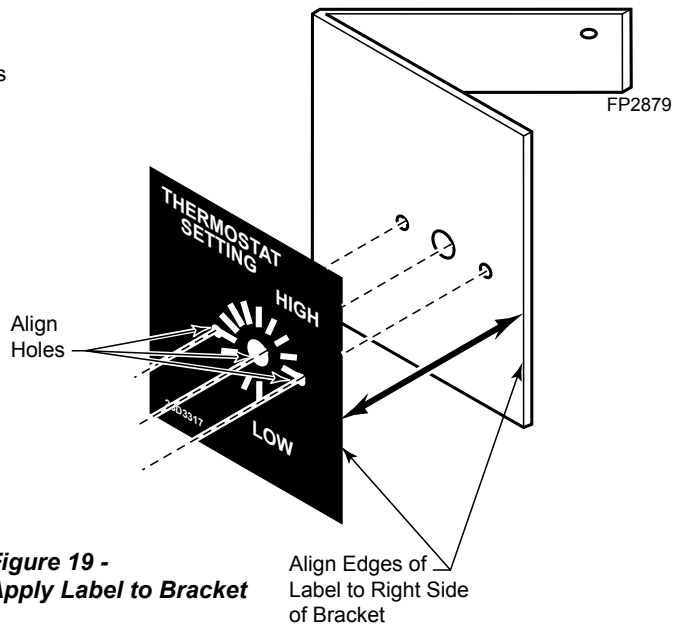

Figure 19 - Apply Label to Bracket
2. Peel away the paper backing on the label. Align holes in label with holes on the bracket. Right side of label should flush with right side of bracket. *Figure 19*. Press label firmly and smoothly to bracket.